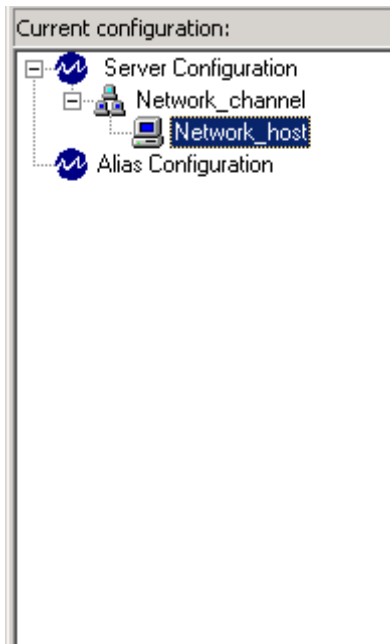

Figure 23 - New Network Host Object
8. Click on the **OK** button. The object is created and appears as a child of the **Network Channel** item as shown in Figure 23.